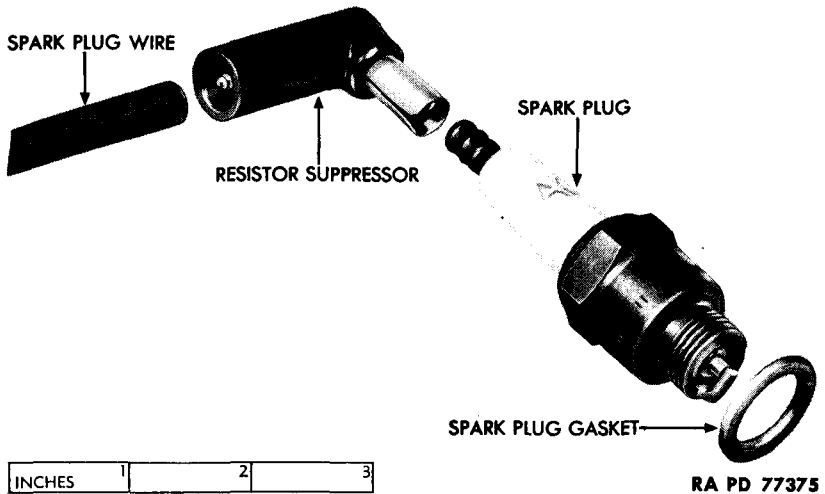

Figure 108 — Spark Plug Resistor Suppressor Installation
a. Description (fig. 108). Seven resistor-type suppressors are used, one located on top of each spark plug, and the remaining suppressor in the coil to distributor high tension secondary wire about an inch above the distributor cap.